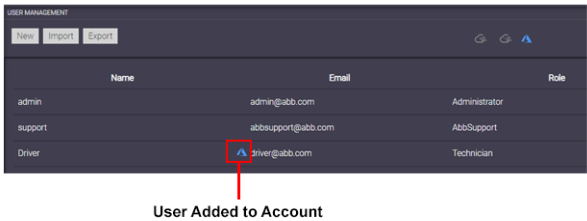

Figure 65 User Commissioning Added
- 3 Click **Confirm**: The user(s) are added to the account. In Figure 65, *driver@abb.com* is added.